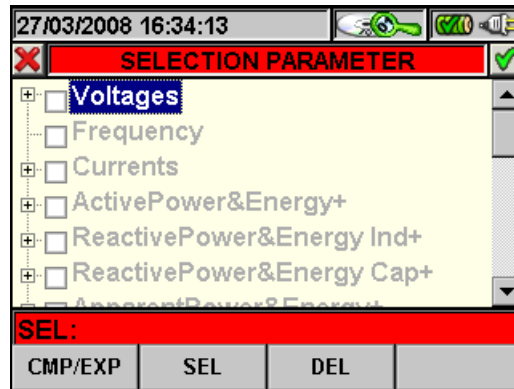

Fig. 108: Parameter selection
1. Press the **F1** key (or the **PARAM** item on the display) to access the page containing the recorded quantities available for the analysis (Fig. 108).
- **F1** key (or **PARAM** item on the display) to access the page of the selectable parameters (Fig. 108).